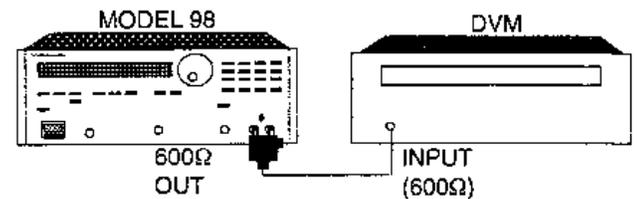

Figure 2-4. 600 Ω Amplitude Measurement Setup
2. Connect the Model 98 and test equipment as shown in figure 2-4.
2. Connect the Model 98 and test equipment as shown in figure 2-4, following the instructions in step 3 of the previous test.